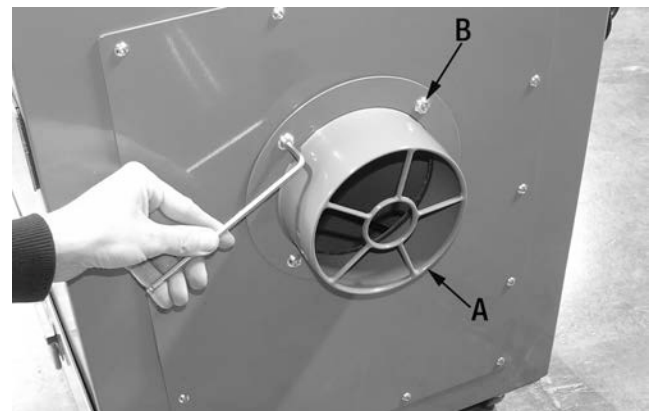

FIGURE 6
- 1) Install the 6" inlet (A) Fig.6 and the 6" inlet gasket (not visible in the image) to the opening in the cabinet using 4 large round head allen screws (C).